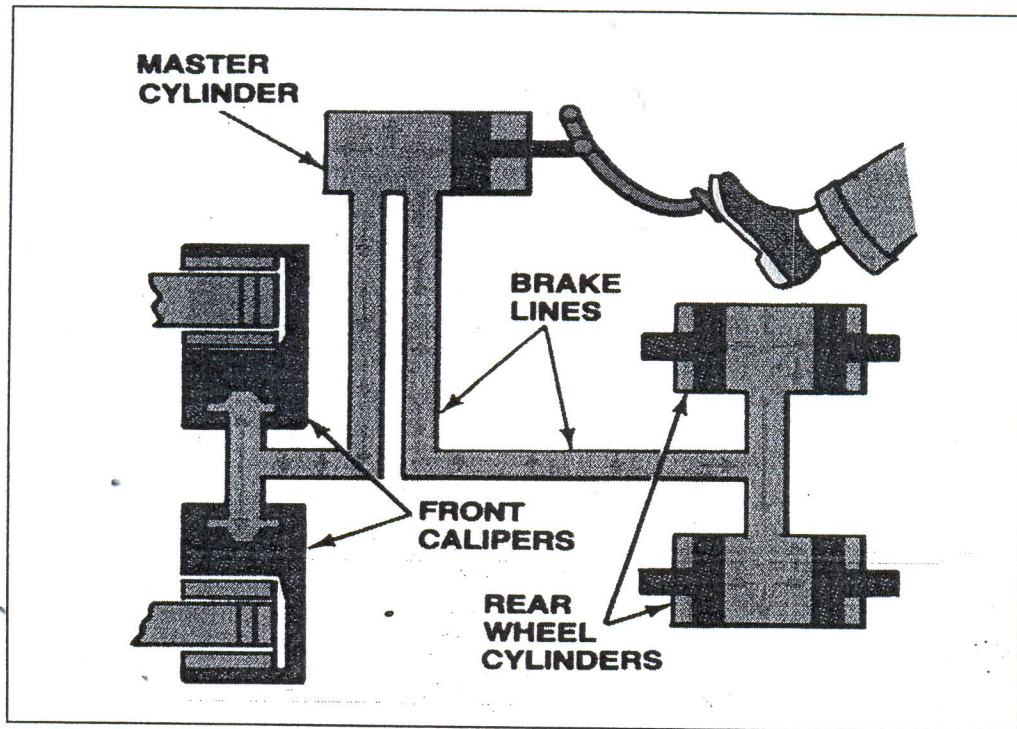

Figure 4: Brake System Layout
- d) A driver applies 45 kg of force to a brake pedal that is connected to the master cylinder through a brake pedal lever having 4.0 :1 ratio. The master cylinder piston has a diameter of 15mm. Refer to the figure 4 below: